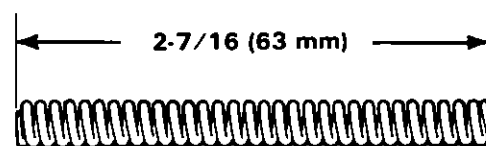

Figure 27. Measuring Clutch Spring Length.
- A Check free length of clutch spring Check straightness by rolling on flat surface Figure 27